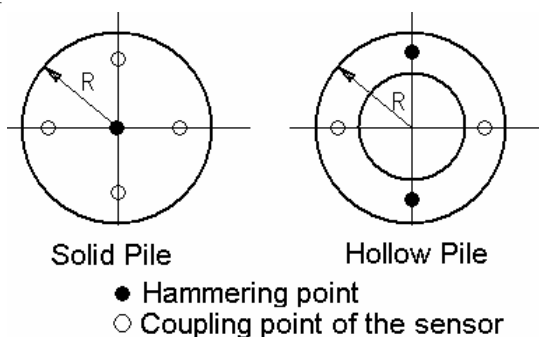

Figure 3.27 The Coupling Point of the Sensor and the Hammering Point
the center of the pile should be two-thirds of the pile radius, as shown in Figure 3.27;
- 4) As for the prestressed pipe pile, the angle between two planes formed by the installation point of the sensor, the hammering point and the center of the pile head should be 90 degree, as shown in Figure 3.27;